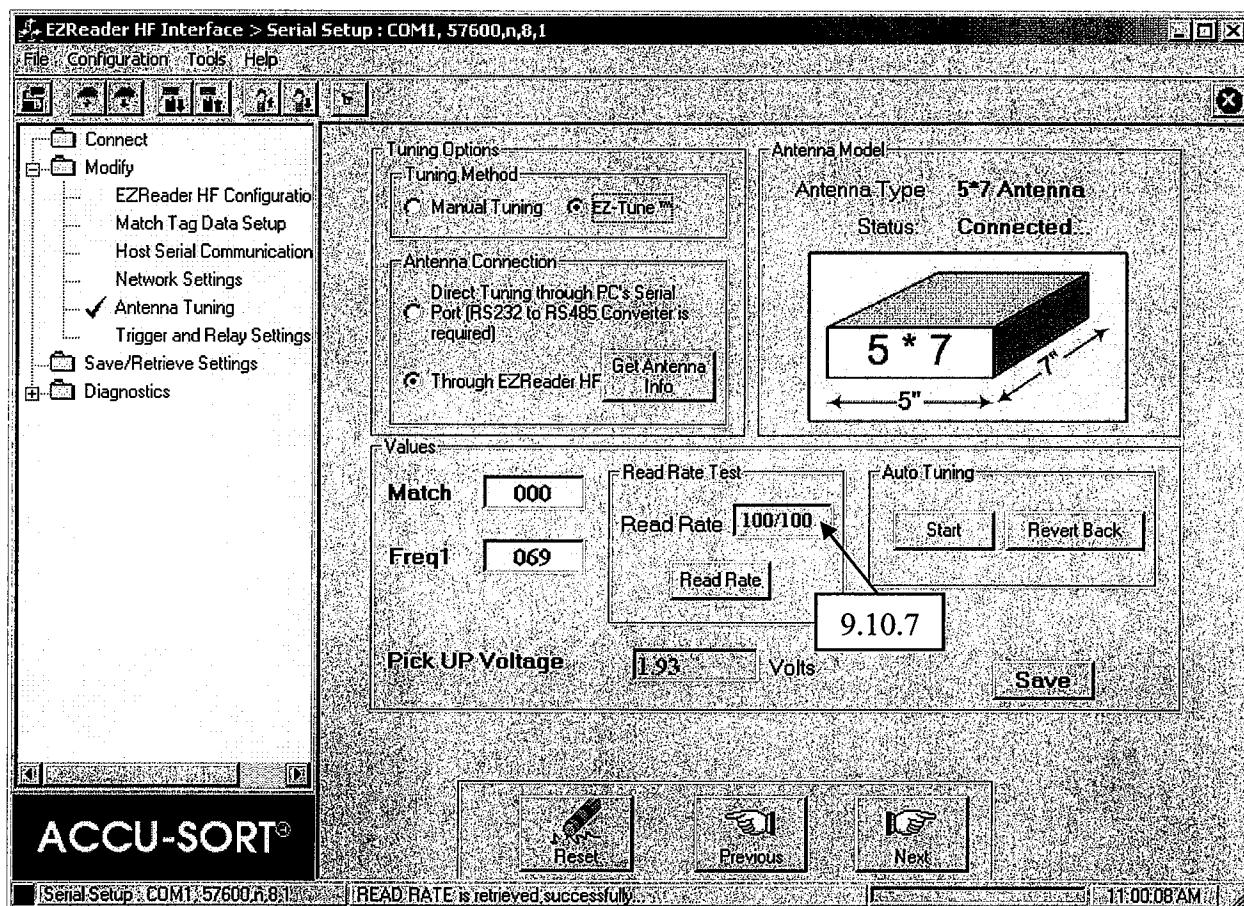

Figure 23
9.10.7 Place the ISO 15693 (TI) HF Test Tag on the PVC spacer and then hit the Read Rate button verify you get a 100/100 as shown in Figure 23. Note some times you may see a number such as 98/100 or 99/100 but it should be mostly 100/100.